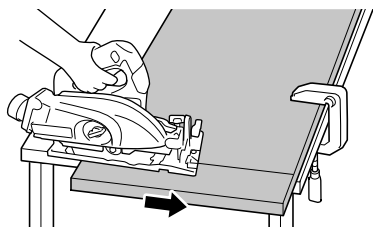
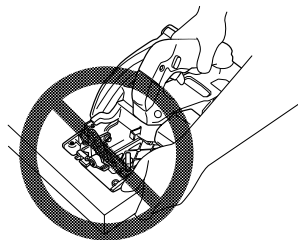

Fig. 2
Fig. 3
4. **Place the wider portion of the saw base on that part of the work piece which is solidly supported, not on the section that will fall off when the cut is made. As examples, Fig. 2 illustrates the RIGHT way to cut off the end of board, and Fig. 3 the WRONG way. If the work piece is short or small, clamp it down. DON'T TRY TO HOLD SHORT PLACES BY HAND!**